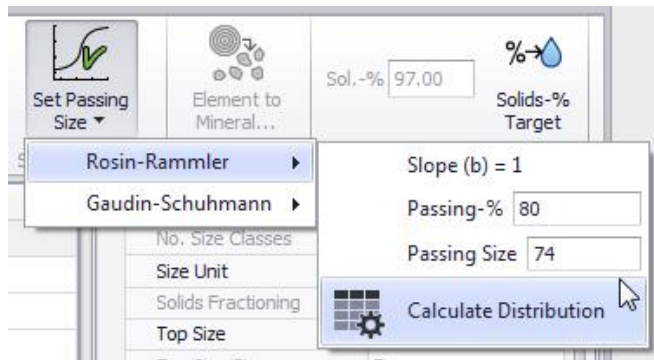

Fig. 31. Automatic calculation of the size distribution to match the given passing size value.
- 2) By giving the known passing size value (e.g. for P80), the slope parameter is as given in Properties (**Fig. 29**), and the second parameter is solved by HSC Sim, by pressing Enter or clicking Calculate Distribution from the **Set Passing Size** button menu, shown in **Fig. 31**.